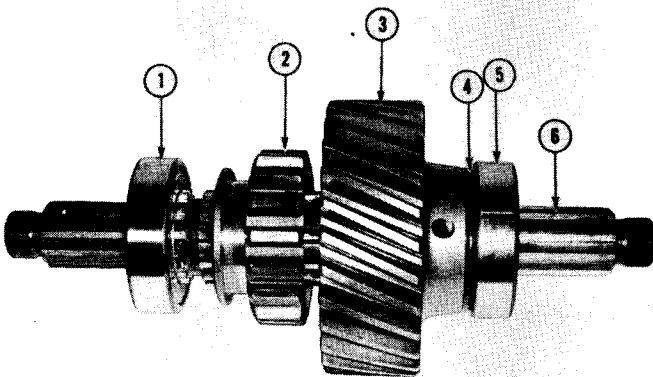

Figure 4-97
Using a suitable press install main drive gear (3, Fig. 4-97), washer (4) and bearing (5) to drive shaft (6).